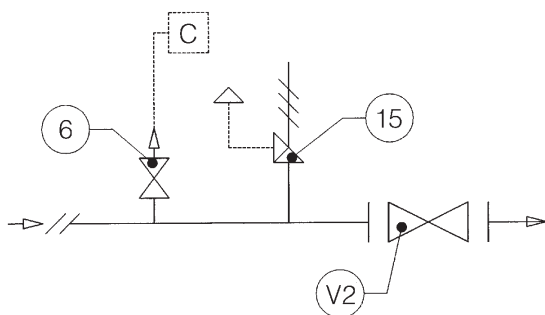

Fig. 6
3.1.1 INSTALLAZIONE DIRETTA SULLA LINEA (FIG. 6)
3.1.1 DIRECT INSTALLATION IN THE LINE (FIG. 6)
3.1.1 INSTALLATION DIREKT AN DER REGEL-STRECKE (ABB. 6)
3.1.1 INSTALLATION DIRECTE SUR LA LIGNE (FIG. 6)
3.1.1 INSTALACIÓN DIRECTA SOBRE LA LÍNEA (FIG. 6)
3.1.1 INSTALAÇÃO DIRECTA NA LINHA (FIG. 6)